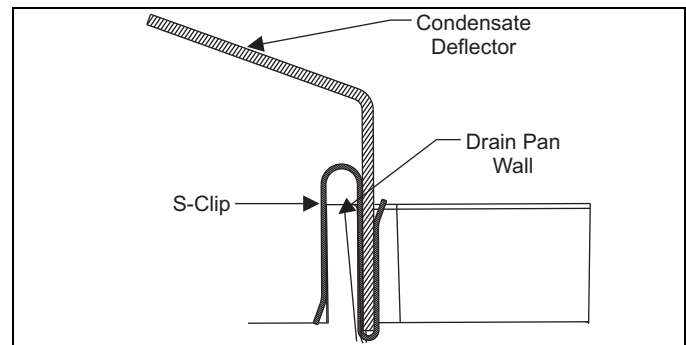

FIGURE 13: S-Clip Installation
*The condensate deflector should be installed in the s-clip section which is inside the drain pan edge. See Figure 13.*